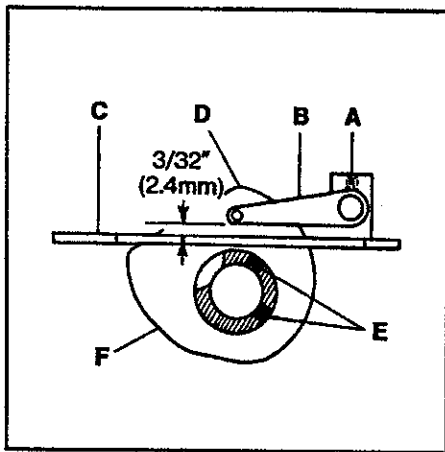

FIG. 34
Loosen screw (A, Fig. 34) and set the lower edge of cover thread take-up eyelet (B) so it's $3/32"$ (2.4mm) above the surface of cast-off plate (C). Tighten screw (A). As the cover thread hook moves to the left over the cover thread and the needle bar starts to rise, the cover thread must "cast-off" from the high point of take-up (D). Loosen screws (E) and adjust take-up (F) accordingly. Make sure that take-up (F) is centered in cast-off plate slot (C) and take-up eyelet (B) is centered to take-up (F). Tighten screws (E).